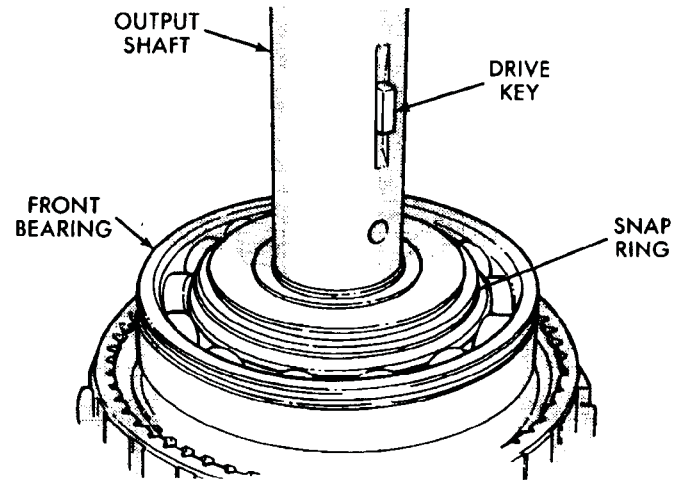

Fig. 64 Front Bearing And Drive Key Installation
(1) Install front bearing and snap ring on output shaft (Fig. 64). Be sure locating ring groove in bearing is toward rear of shaft. Otherwise, housing locating ring and bearing ring groove will not align. Remove and reposition bearing if necessary.
(2) Install governor drive key in output shaft (Fig. 64). Use petroleum jelly to hold key in place if necessary.